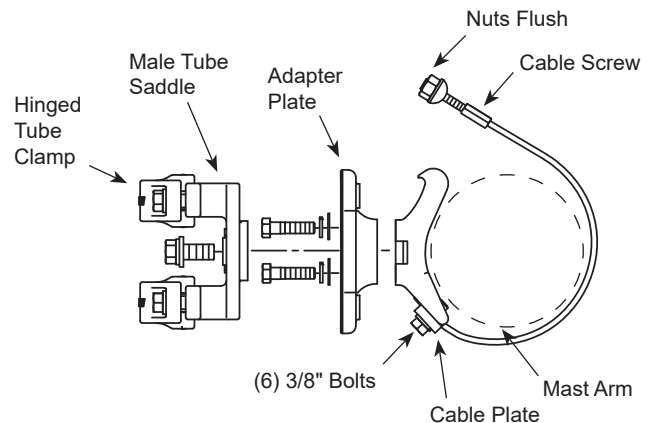

Figure 1
2. Loosen the (6) 3/8" bolts on the cable plates.
3. Adjust the nuts flush to the top of the cable screw as shown. (Figure 1)